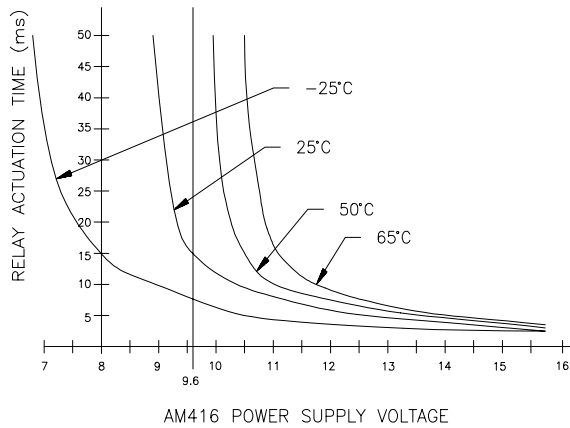

FIGURE 4. Actuation Time of Relays vs. Temperature (°C) and Battery Voltage.
- See Figure 4 for implications of low power to relay actuation
Operate time 8 to 15 ms approx. (See Figure 4)
Low power and high ambient temperatures may affect the actuation time of the multiplexer relays (Figure 4). If the relay is not closed when a measurement is started, the result will be an inaccurate or overranged value.
(8) Additional Loops - Additional loops may be used if sensors that require different measurement instructions are connected to the same multiplexer. In this instance, like sensors are assigned to sequential input SETS. Each group of sensors is measured in a separate loop (steps 2 through 7, Figure 4). Each loop contains clock and measurement instructions, and all loops must reside between the instructions that activate and deactivate the AM416 (Steps 1 and 9).